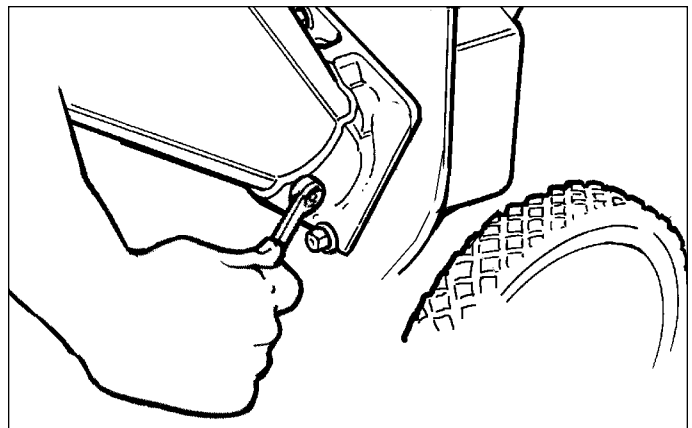

Figure 2. Installing Chipper Cone
1. See Figure 2. Position the chipper cone assembly base onto the mounting casting and attach the cone using the hex socket screws (1/4-20 x 3/4") and the 1/4" lock nuts provided.